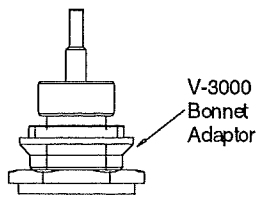

Figure 3: V-3000 Bonnet Adaptor
4. Remove the V-3000 bonnet adaptor shown in Figure 3 (for 1 through 2 in. valve sizes only).